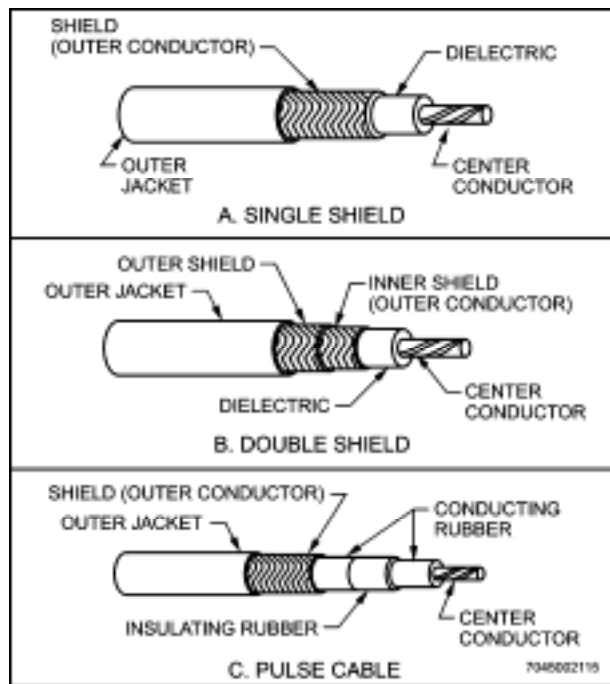

Figure 12-9 Typical Coaxial Cables
6. Coaxial cable consists of an inner (centre) conductor separated from the outer conductor, usually called a shield, by an insulating dielectric. The cable is protected against moisture and abrasion by a tough outer jacket (sometimes called a sheath). See Figure 12-9 for typical coaxial cables. The inner conductor is usually copper, either solid or stranded, and may be bare, tin plated, or silver plated. The outer conductor (shield) is usually a copper braid, bare, tin plated, or silver plated, woven over the dielectric. Some coaxial cables have a double outer conductor (double shield) to provide extra shielding. The dielectric has two functions: (1) it provides low loss insulation between the inner